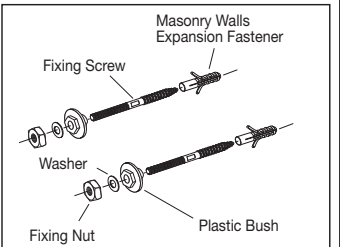

Fig. 2
- 3- Insert expansion fasteners into the drilled holes in masonry wall. Screw fixing screws into the wall using the flats located on the screws section of the stud and spanner as shown in **Fig. 2**. Allow 55mm of thread to protrude from the finished wall.